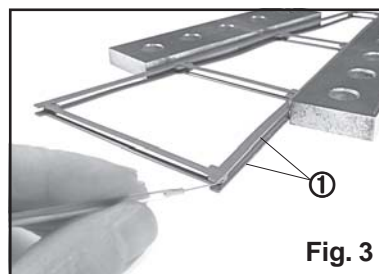

Fig. 3
1. Cement two **bent halves (1)** together. Be sure the edges of both **bent halves** are flush with one another. See fig 3.